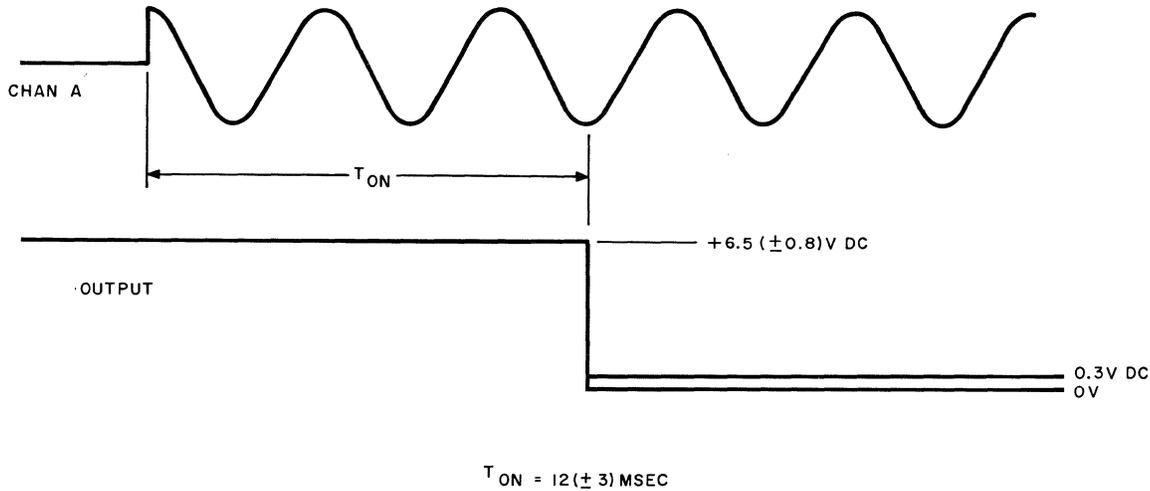

Fig. 13 — Single Frequency Detector Test
- (4) Set the frequency of the square-wave generator to 2.0 cps. Set the amplitude of the square-wave generator high enough to operate the mercury relay.
- (5) Set the scope EXT SYNC TRIGGER to the (−) negative position. The output waveform at terminal 14 shall be as specified in Fig. 13.